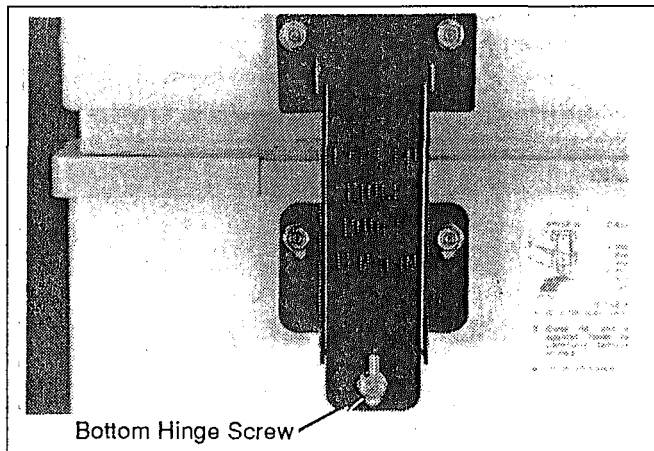

Figure A5 - Lid Removal
1. Open the lid and remove the bottom hinge mounting screw. See Figure A5.
2. While holding in on the bottom of the hinge, remove the remaining two hinge mounting screws. See Figure A5.